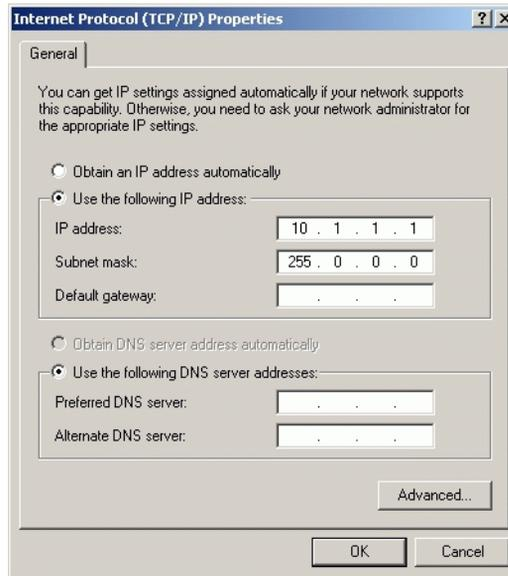

Figure 18 Internet Protocol (TCP/IP) Properties Dialog Box
5. Double-click the *Internet Protocol (TCP/IP)* entry. The *Internet Protocol (TCP/IP) Properties* dialog box displays (Figure 18).